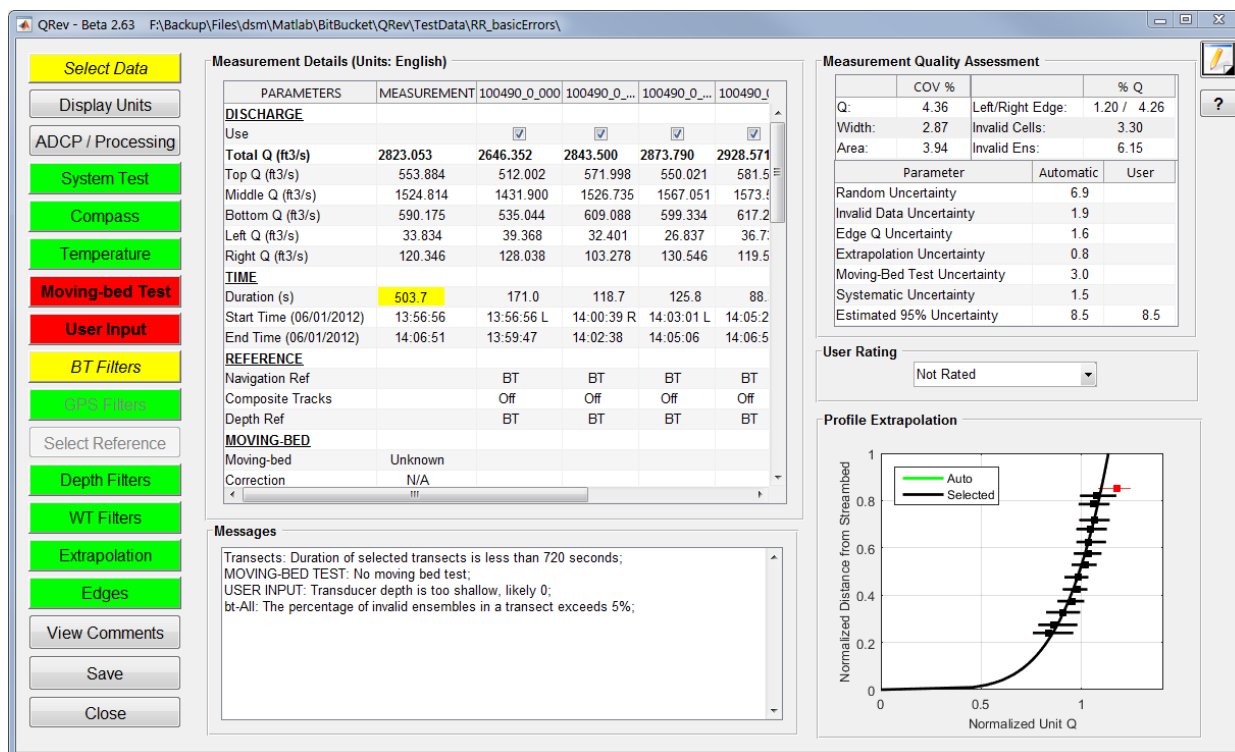
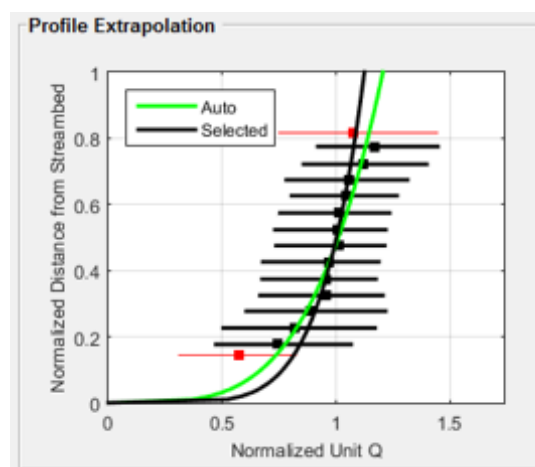
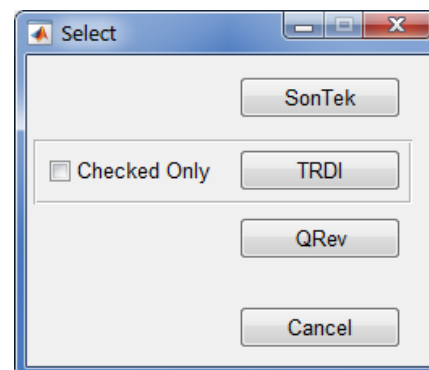
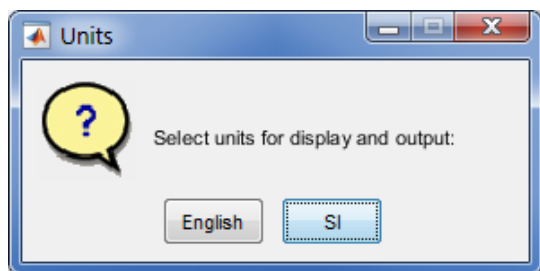

Figure 1. QRev main window.
Figure 4. Example profile extrapolation showing a selected extrapolation method different from the automatically selected method.
Figure 5. Select data window.
Figure 7. Display Units dialog box.
The GUI, shown in figure 1, is designed to be logical and tablet friendly. To load and review data, the user works from top to bottom along the buttons on the left. This approach leads the user through the premeasurement steps first. Navigation reference, depth, and water data are needed to compute discharge. By working top to bottom the best navigation data are obtained, then the best depth data, and finally the best water data, which are dependent on the navigation reference and depth. Thus, the final discharge is based on the best available data.
The buttons on the left (fig. 1) will turn green, yellow, or red based on the automated data quality assessment (ADQA). If a button is yellow or red, an associated message will be in the message box at the bottom of the main window. Buttons, check boxes, radio buttons, and pop-up menus are used
The QRev main window (fig. 1) has six sections: (1) buttons down the left side, (2) Measurement Details panel, (3) Messages panel, (4) Measurement Quality Assessment panel, (5) User Rating panel, and (6) Profile Extrapolation panel. The information available from this main window provides the user an overview of the measurement quality and totals. The color highlighting and messages alert the user to any potential issues detected by the ADQA. Other modal windows to explore the data or change the processing settings are accessed from this main window using the buttons on the left.
The buttons on the left (fig. 1) are arranged from top to bottom to lead the user through the steps of loading, reviewing, and finalizing a measurement. The buttons will display in one of four ways depending on the results of the ADQA.
The Measurement Details panel (fig. 1) provides a table of the measurement results and configuration settings. The units system used for the measurement is shown in the panel label and with each row label that has units associated with it. A scroll bar on the right allows the user to scroll up and down through the table. Depending on the number of transects in the measurement there may be an additional scroll bar at the bottom to allow the user to scroll left and right. Clicking in the table will allow navigation of the table with the arrow keys. The width of the columns can be changed by placing the cursor in the column labels and dragging the column divider.
The Messages panel displays messages reported by the ADQA (fig. 1). Each message has an initial identifier followed by a colon. Messages with an identifier that is in all uppercase are warning messages and will be associated with a red button. Messages with an identifier that has lowercase letters are caution messages and will be associated with a yellow button. The scroll bar on the right allows the user to scroll through messages if the messages exceed the panel size. The arrow keys cannot be used to scroll through the messages text box.
The Measurement Quality Assessment panel (fig. 1) consists of three tables with information to assist the user in rating the quality and uncertainty of the measurement. The table in the upper left provides the coefficient of variation in percent (COV %) for the total discharge, the cross-section width, and the cross-sectional area. The table in the upper right provides the percentage of total discharge (% Q) in the left and right edges (Left/Right Edge), in invalid cells (Invalid Cells), and in invalid ensembles (Invalid Ens.). Cells in the tables may be colored based on the results of the ADQA.
The table at the bottom of the panel has two columns for the uncertainty of the various aspects of the measurement (fig. 1). The column labeled “Automatic” contains the values generated by QRev based on assumptions and computations defined in Mueller (in review) and briefly in the following paragraphs. Because the assumptions and computations used to generate the values in the “Automatic” column are simplistic, the values may not accurately represent the uncertainty for all conditions. The column labeled “User” allows the user to override the automatic values with a user supplied value. A value entered by a user should be supported with a comment. The total estimated 95 percent uncertainty value will be recomputed each time a new “user” value is input. The uncertainty categories are defined as follows.
The User Rating panel (fig. 1) provides a popup menu to allow the user to rate the measurement. QRev does not automatically rate the measurement. The user should consider the information provided in the Measurement Quality Assessment panel (especially the uncertainty estimate), the quality of the stage measurement, and any other factors that might affect the overall quality of the measurement when selecting the final rating.
The Profile Extrapolation panel (fig. 1) contains a graph of the normalized depth and discharge for the entire measurement (check transects only). The data are represented by median values of normalized Q at the mean normalized depth for all data within 5 percent increments of normalized depth. The whiskers on the data points show the range of 50 percent of the data in that median. The selected extrapolation methods are shown with a black line, and the extrapolation methods based on the automatic methods in QRev are shown with a wider green line (fig. 4). QRev defaults to the extrapolation methods based on the automatic selection algorithms; however, the user can choose to override that automatic selection.
The Select Data button (fig. 1) is used to load data into QRev. Clicking the Select Data button opens the dialog shown in figure 5. QRev can load data from
For TRDI ADCPs, select the *.mmt file in the Open File dialog and the transects and supporting data will be loaded. To only load the transects that have been checked in WR2, first click the “Checked Only” box and then click on TRDI (fig. 5).
The Select Data button (fig. 1) may be colored based on the following ADQA checks.
The Display Units button (fig. 1) opens a window that allows the user to select the desired units (English or International System of Units [SI]; fig. 7). This selection can be made at any time. This setting only affects the display of the data and does not have to be consistent with the original units of the loaded data. All data in QRev are stored internally in SI units.